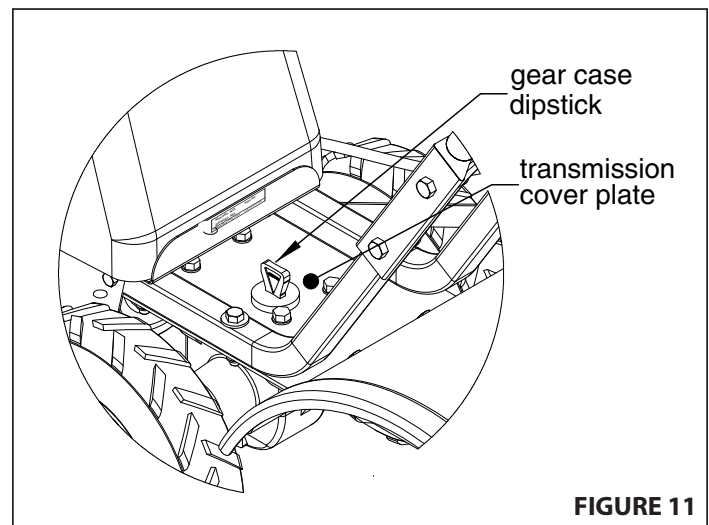
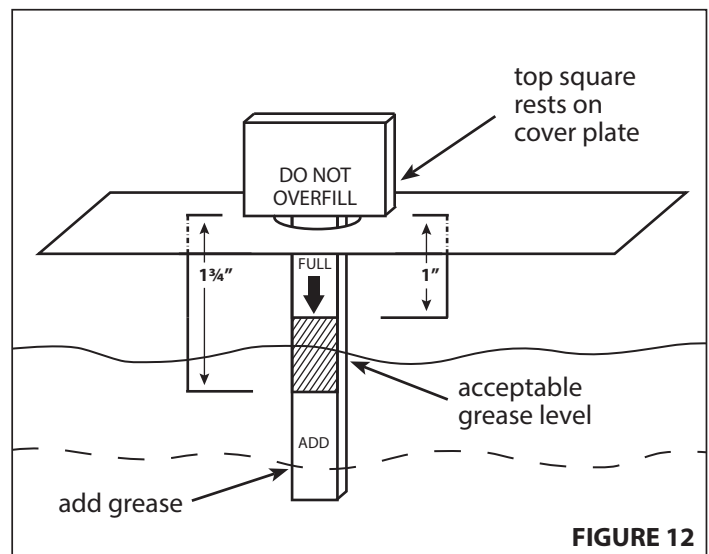

FIGURE 11
FIGURE 12
4. Remove the gear case plug located between the handle bar mounts and the engine mount. **(SEE FIGURE 11)** Insert the dipstick cut-out created in step 1 into the hole in the transmission cover plate so the top square is resting on the cover plate. **SEE FIGURE 12**